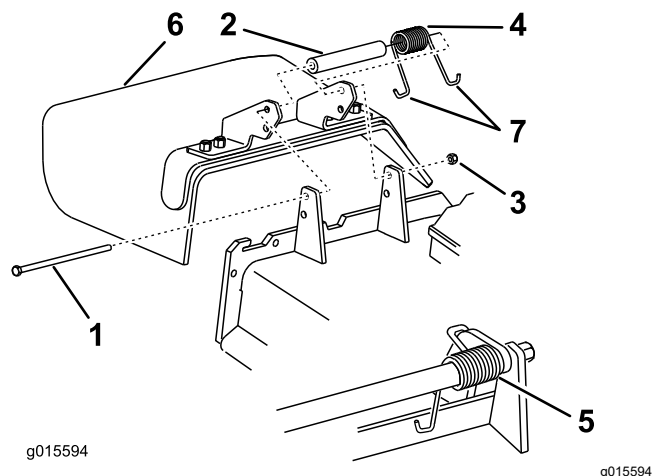

Figure 111
1. Remove the locknut, bolt, spring, and spacer holding the deflector to the pivot brackets (Figure 111).
2. Remove the damaged or worn grass deflector (Figure 111).
6. Place 1 J-hook end of the spring around the grass deflector (Figure 111).
Note: Make sure that 1 J-hook end of the spring is installed behind the deck edge before installing the bolt as shown in Figure 111.